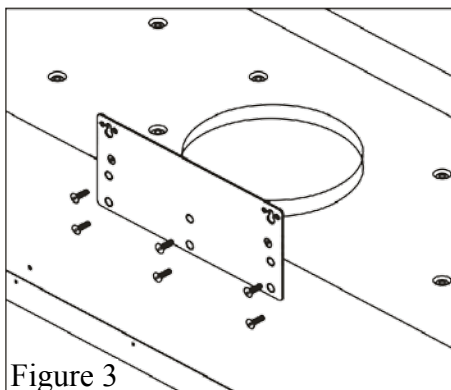

Figure 3
2. Attach the hood-mounting bracket to the back of the hood with six screws as shown in Figure 3.